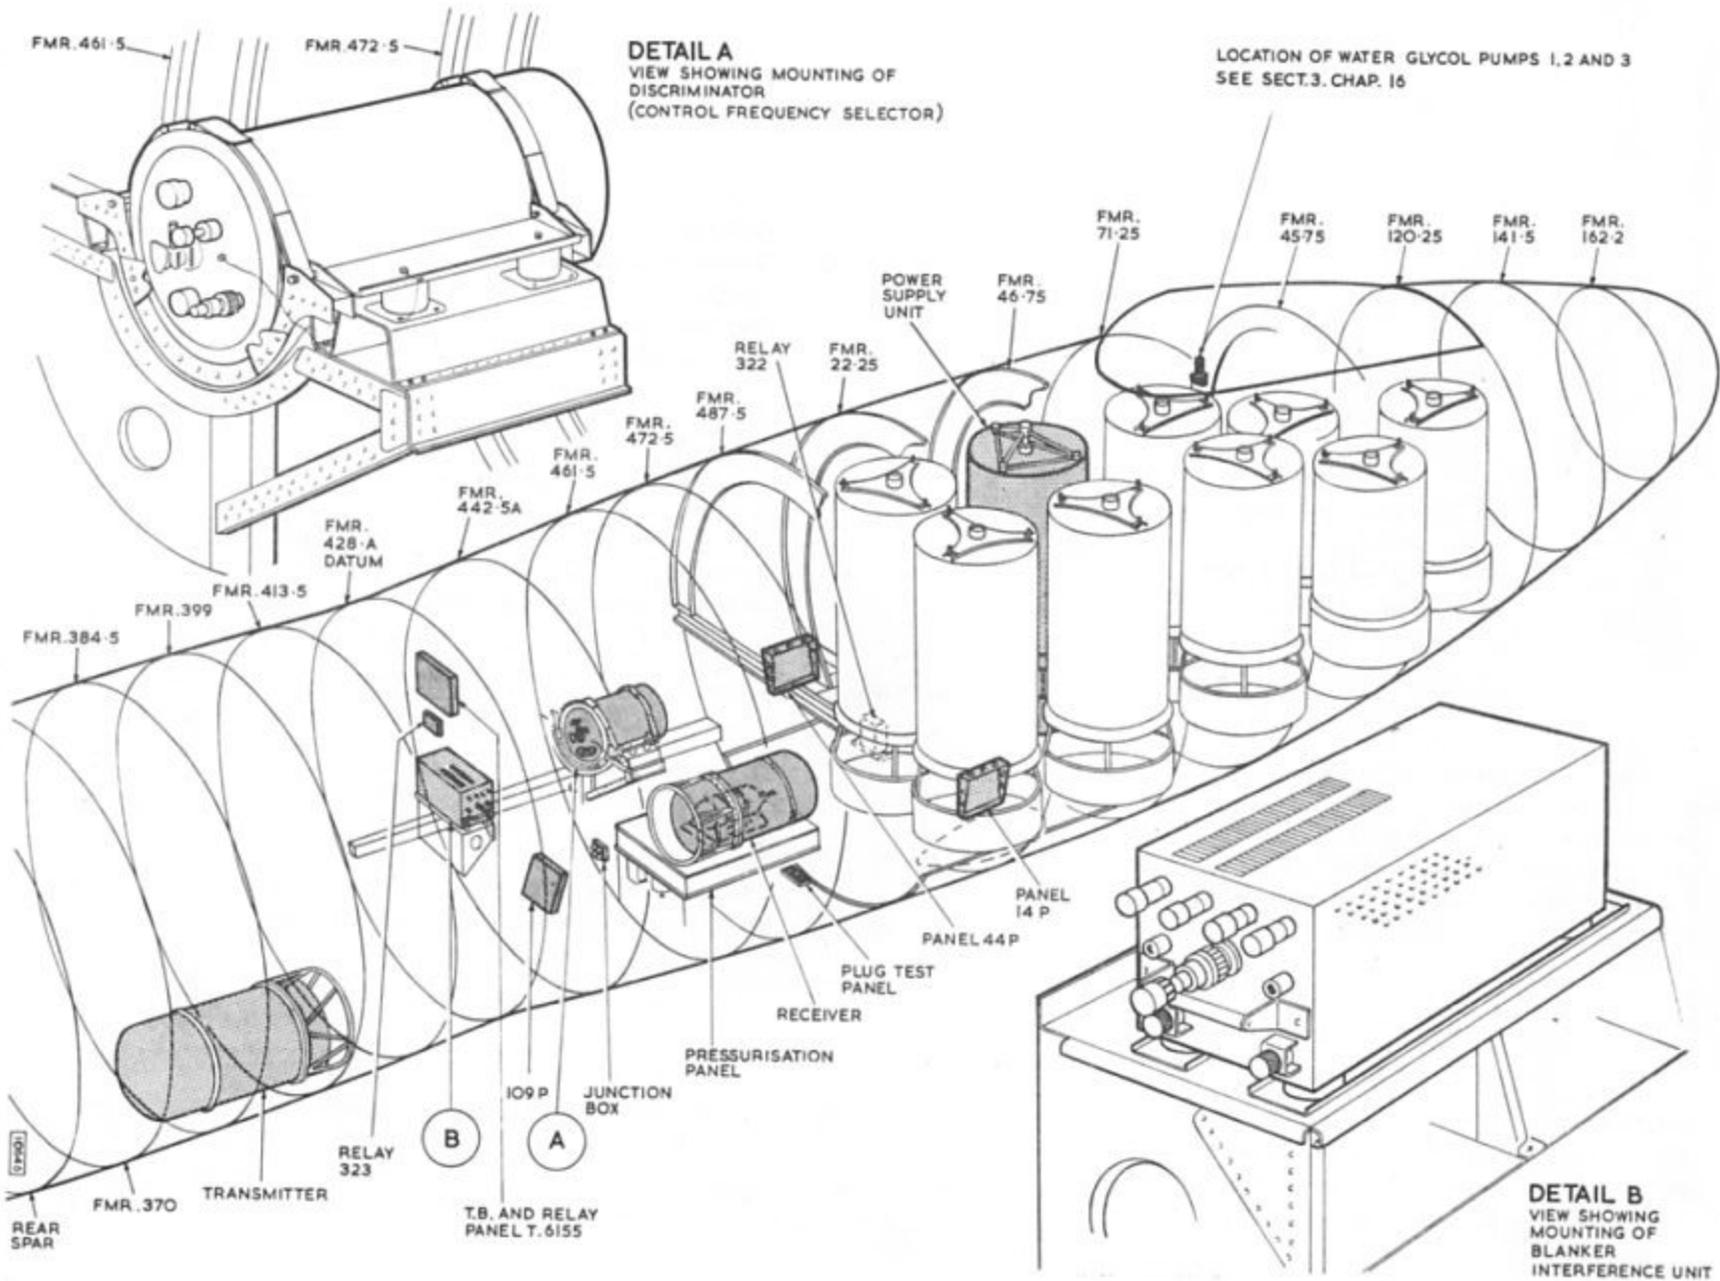

Fig.1 Location of equipment
4. The following items of equipment comprise the A.R.I. and are located as shown in fig.1, 1A, 2 and 5.
5. The transmitter of cylindrical construction (fig.1) is mounted horizontally in a cradle suspended on a resilient mounting at former 384.5. The unit is secured by two strap